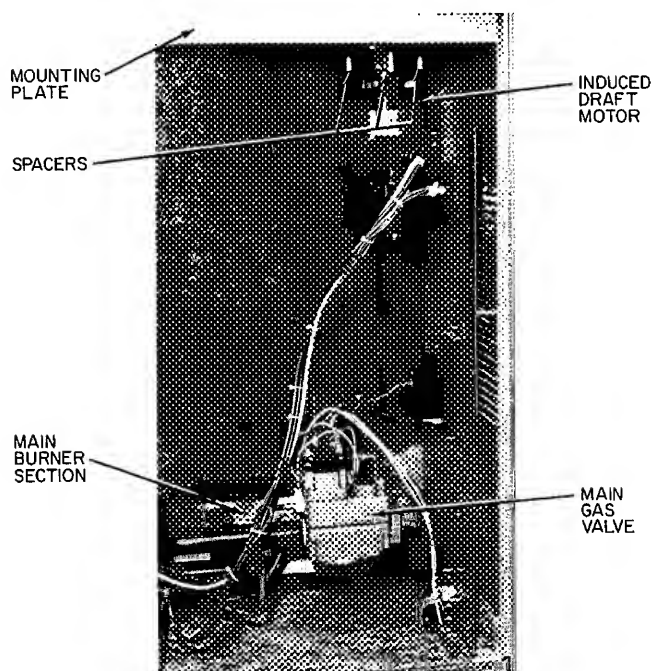

Fig. 42 — Burner Section Details
2. Remove the 6 screws that attach induced draft motor mounting plate to blower housing (Fig. 42). The mounting plate will drop down.